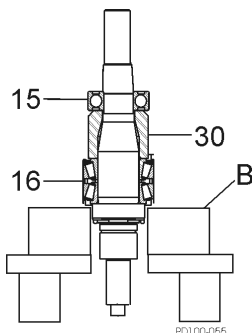

Figure 44 - Remove Bearings From Shaft
- Use a hydraulic press and V-blocks (Figure 44, item B) to remove the bearings (items 15 and 16) and spacer (item 30)